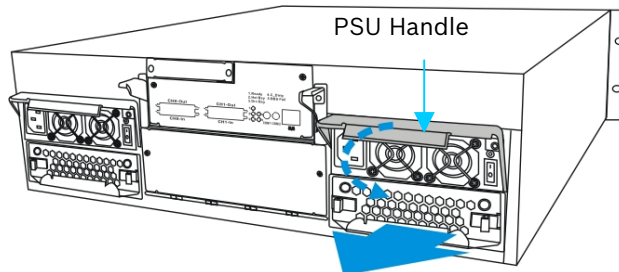

Fig. 6.13 Pressing Down the PSU Handle
4. Remove the PSU module by pressing down the PSU handle found on the top of the PSU. (See *Figure 6.13*) This will dislodge the PSU module from the subsystem.